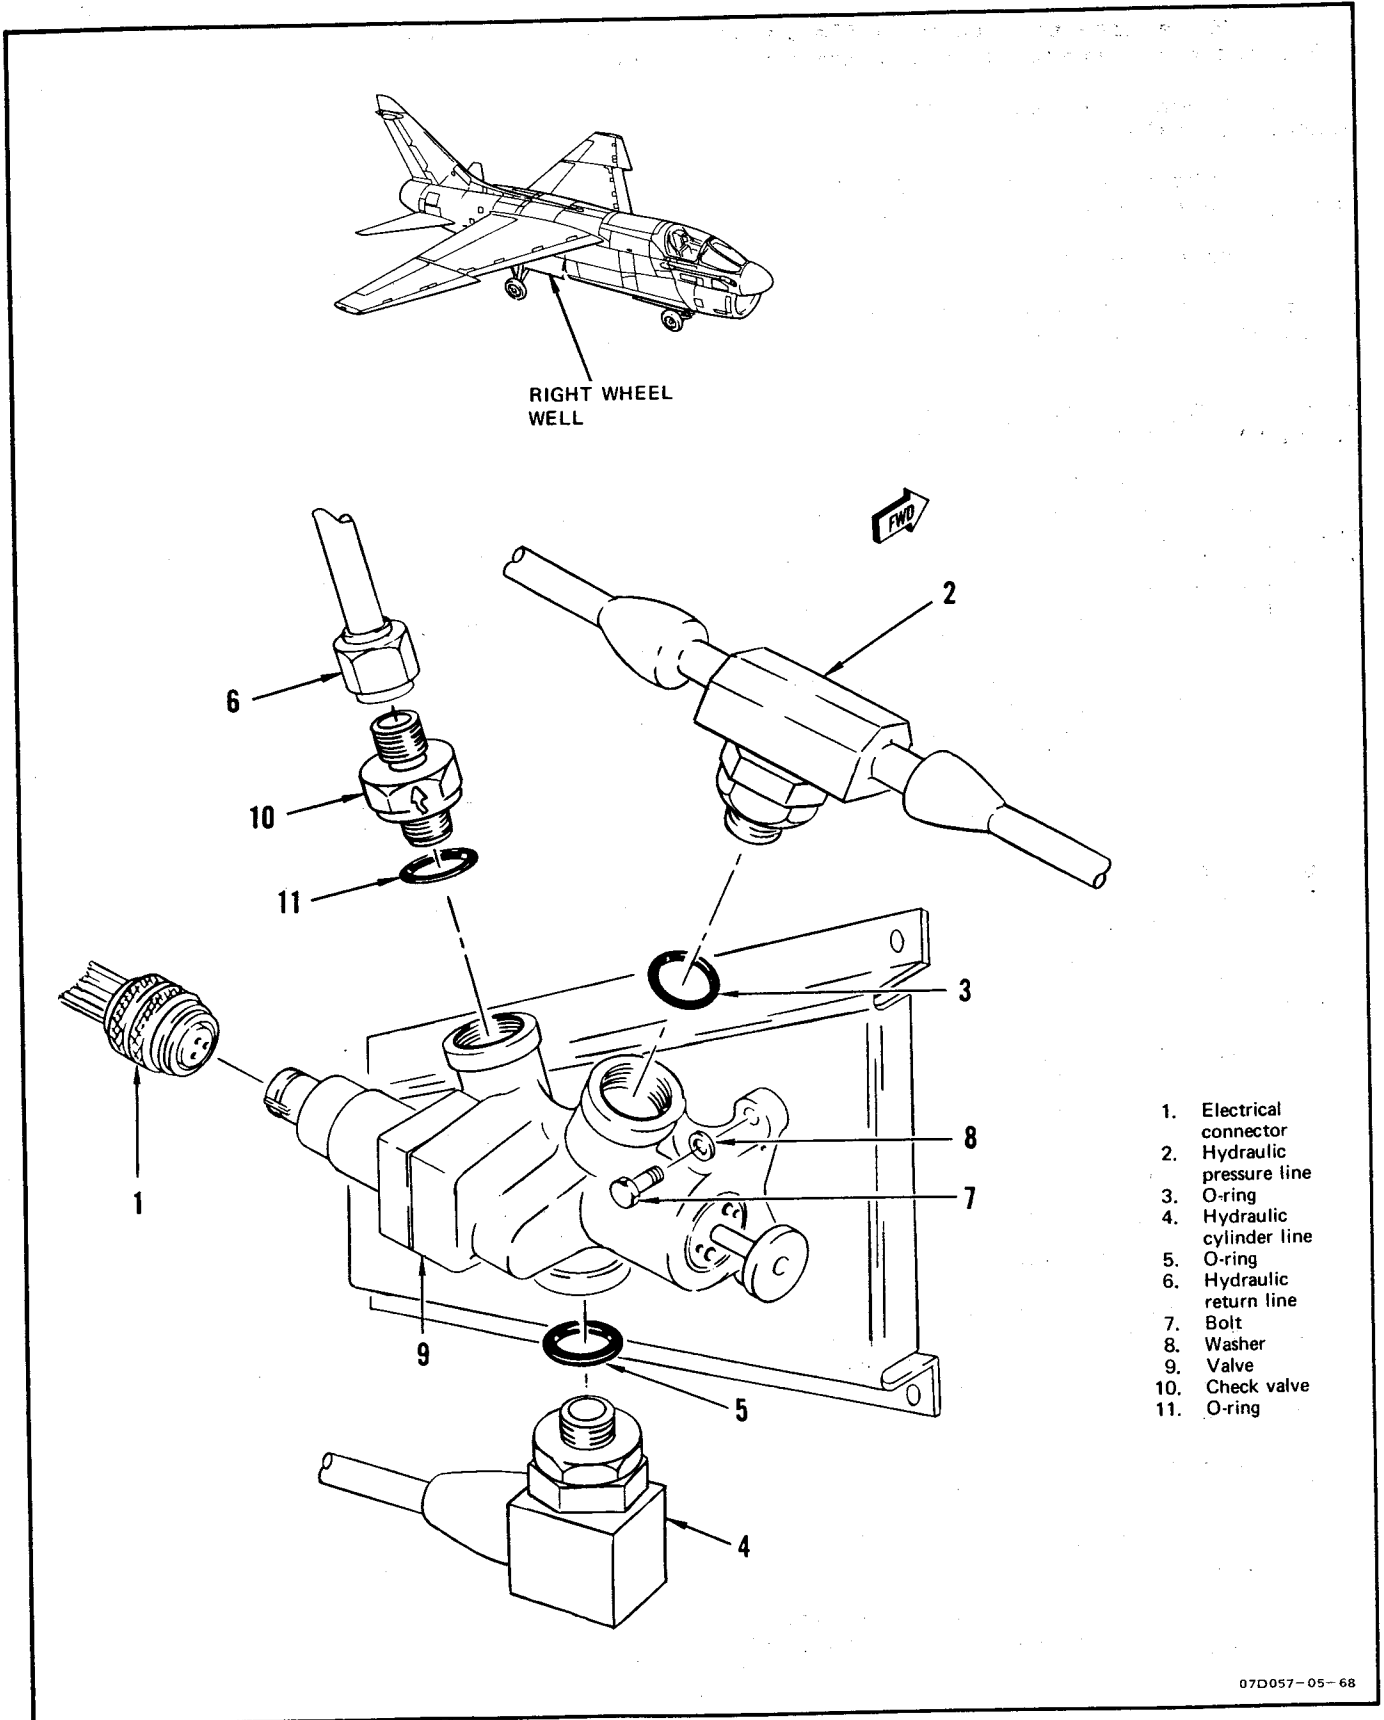

Figure 7-10. Arresting Gear Selector Valve Removal and Installation
**7-37. REMOVAL. (See figure 7-10.)**
- a. Disconnect electrical connector (1) from selector valve. Cap connector plug and valve receptacle.
- b. Disconnect hydraulic line (2) from pressure port and remove O-ring (3). Cap lines.
- c. Disconnect hydraulic line (4) from valve cylinder port and remove O-ring (5). Cap line.
- d. Disconnect hydraulic line (6) from check valve in valve return port. Cap line.
- e. Remove three bolts (7) and washers (8) securing valve to airframe. Remove valve (9) from airplane.
- f. Remove check valve (10) and O-ring (11) from valve return port.
**7-38. INSTALLATION. (See figure 7-10.)**
- b. Place new O-ring (11) on check valve (10) and install check valve in valve return port.
- c. Position valve (9) on airframe and secure with three bolts (7) and washers (8).
- d. Remove cap and connect hydraulic line (6) to check valve in valve return port.
- e. Remove cap and using new O-ring (5) connect hydraulic line (4) to valve cylinder port.
- f. Remove caps and using new O-ring (3) connect hydraulic line (2) to valve pressure port. Tighten tee jamnut.
- g. Remove caps and connect electrical connector (1) to valve receptacle.